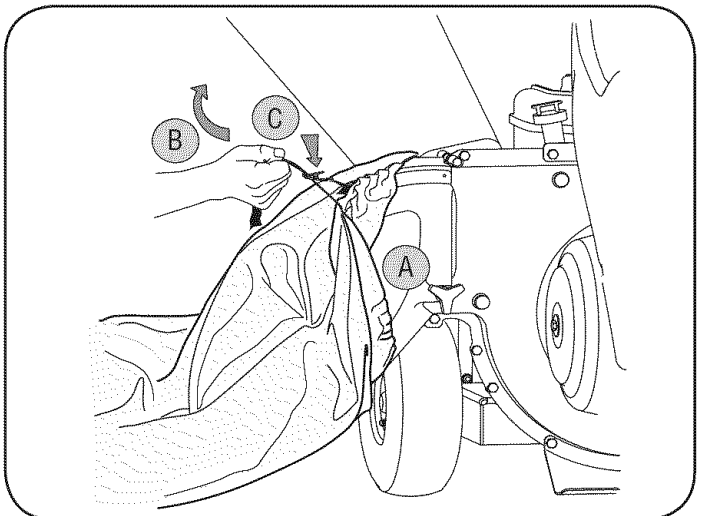

Figure 8
- c. Clip drawstring back on itself, tight against chute deflector to secure into position. See Figure 8.